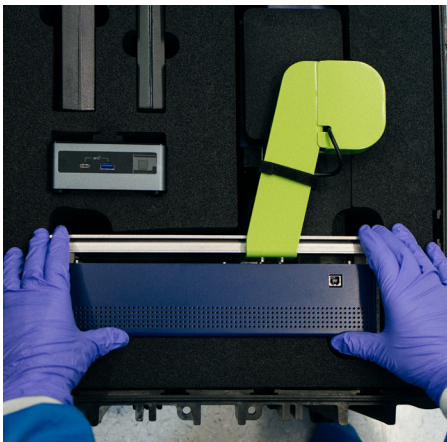

Figure 3. How to lift the LUTHOR single cell dispenser out of the transport box.
- With two hands, gently remove the LUTHOR single cell dispenser out of the box by its base (Figure 3). **ATTENTION:** Do not hold the LUTHOR single cell dispenser by the top part of the instrument.